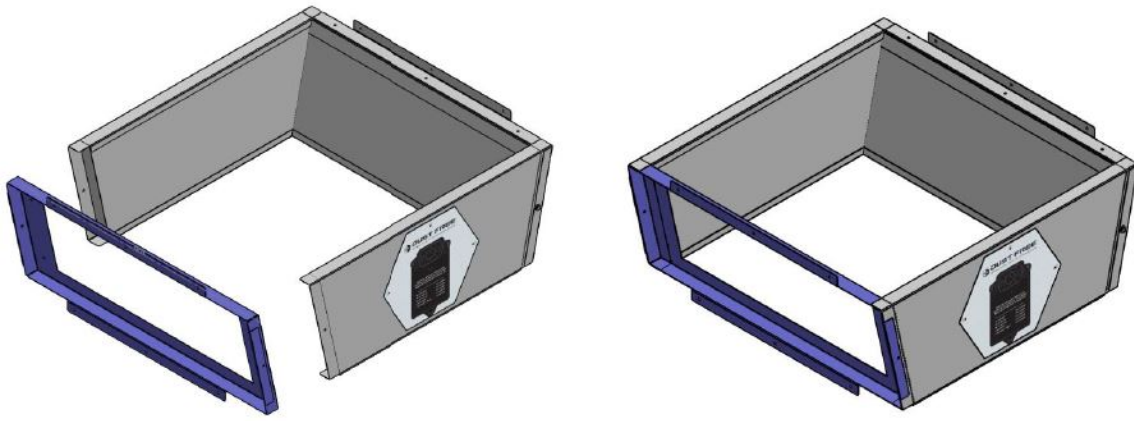

Figure 7: Door frame and unit alignment and assembly.
8. Align and insert the door frame into the side panels with flanges outside the side panel as shown in Figure 7.
6. Remove the door from the door frame. Align and insert the door frame into the side panels, with flanges outside the side panel as shown in Figure 7.